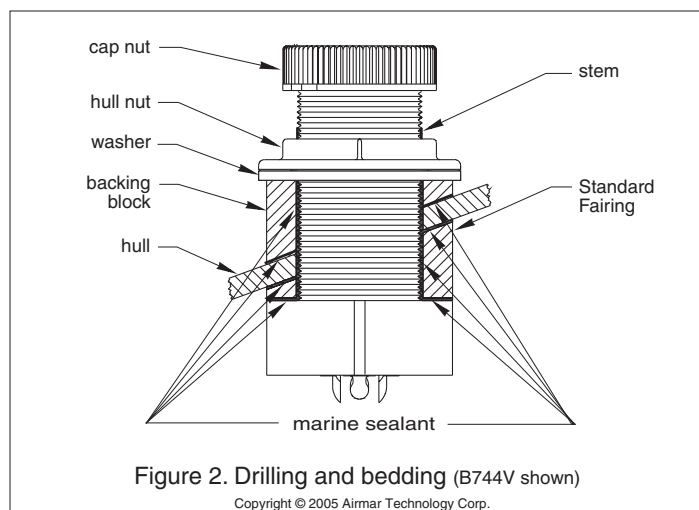

Figure 2. Drilling and bedding (B744V shown)
- Drill a 3mm or 1/8" pilot hole perpendicular to the waterline from inside the hull (see Figure 2). If there is a rib, strut, or other hull irregularity near the selected mounting location, drill from the outside.
1. Apply a 2mm (1/16") thick layer of marine sealant over the surface of the multisensor housing that will contact the fairing and up the stem. The sealant *must* extend 6mm (1/4") higher than the combined thickness of the fairing, hull, backing block, washer, and hull nut (see Figure 2). This will ensure there is marine sealant in the threads to seal the hull and hold the hull nut securely in place.
3. Apply a 2mm (1/16") thick layer of marine sealant to the side of the fairing that will contact the hull (see Figure 2).
2. From inside the hull, slide the backing block onto the stem and seat it firmly against the hull. Slide the washer against the backing block. Screw the hull nut in place. Tighten it with slip-joint pliers (see Figure 2).